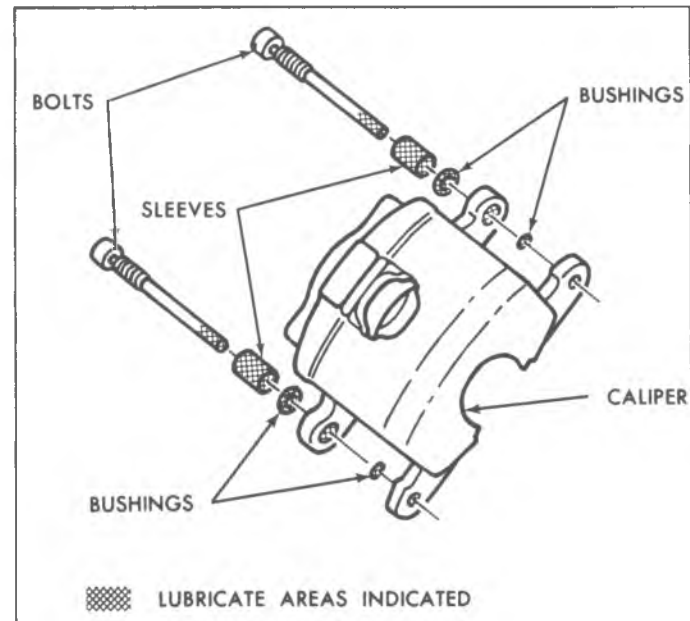

Fig. 55--Lubrication Points
1. Lubricate new sleeves, new rubber bushings, the bushing grooves and the end of the mounting bolts using Delco Silicone Lube #5459912 or equivalent (fig. 55).